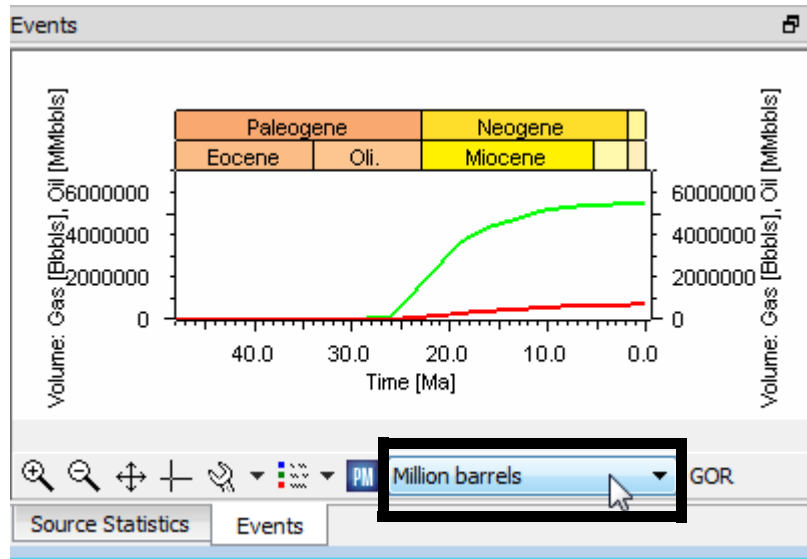

Fig. 3-11 Changing the units in the events pane.
- Now change the units in **Events** pane. This determines the units in which the oil components are shown in the **Events** pane (see Fig. 3-11). The gas components continue to be shown in the units selected in Step 1.